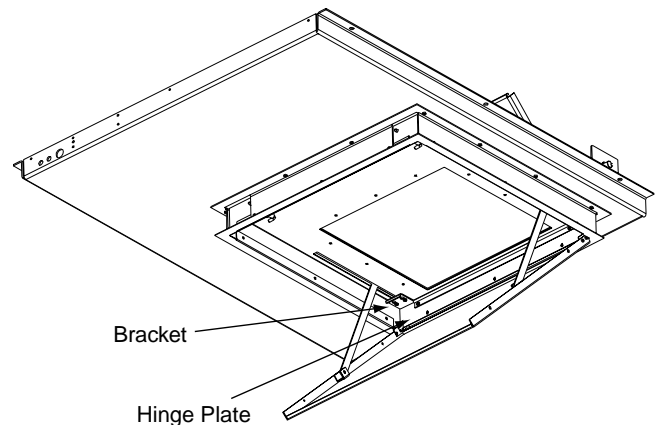

Figure 4
- ⑨ Reattach brackets by placing them over the screws and sliding them toward you. Do not tighten screws to brackets at this time.
- ⑩ Slide shield into place by holding shield flat against bottom of main pan of the Revelation, so that latches are engaged into holes in the latch plate, and holes in hinge of the shield are aligned with holes in hinge plate. Attach shield to hinge plate using two 8-32 screws provided (see Fig. 4).